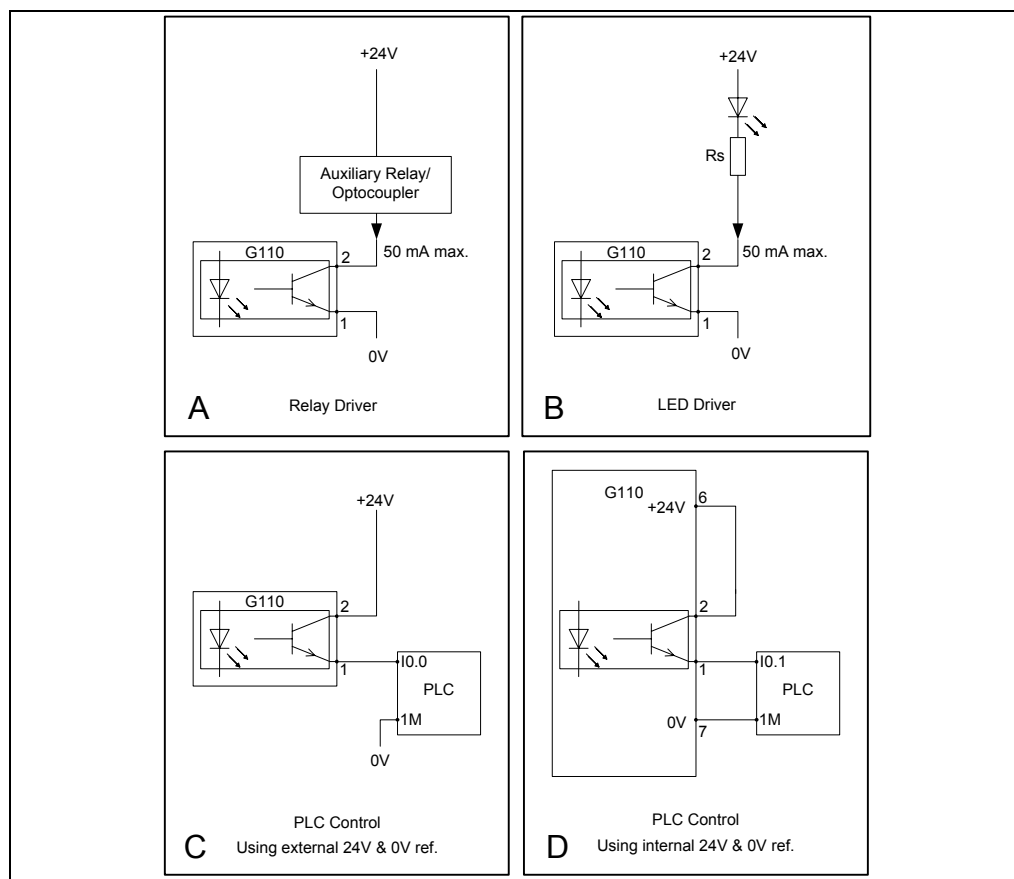

Figure 3-8 Typical Configurations of the Digital Output
It can therefore be connected to operate a warning light (LED) see Figure 3-8 (B) on page 50 or an auxiliary relay, see Figure 3-8 (A), providing that those ratings are not exceeded.
Since the digital input of a PLC has a high impedance, the digital output can also be connected to the PLC using the internal power supply of the inverter using terminal 6 of the inverter, see Figure 3-8 (D) below. An external 24 V power supply is also permissible, see Figure 3-8 (C) below.
The sense of the optocoupler - "switch" (contacts open/contacts closed - respectively high active and low active) depends on the signal selected by P0731. For example, P0731=4 means drive running equals high active and is describe in the Parameter List. The sense of the optocoupler may be inverter by using P0748. Some typical configurations are shown in Figure 3-8 below.